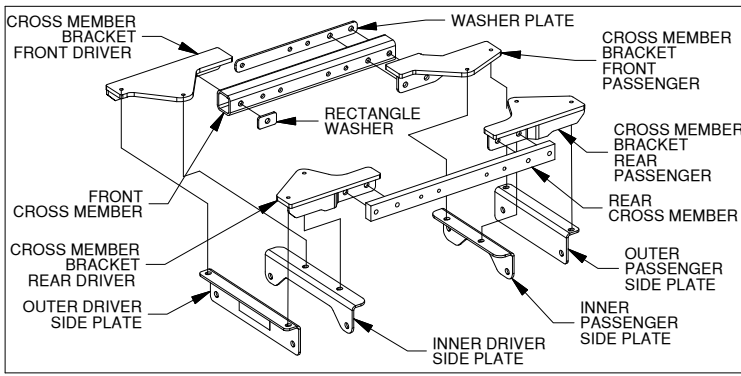
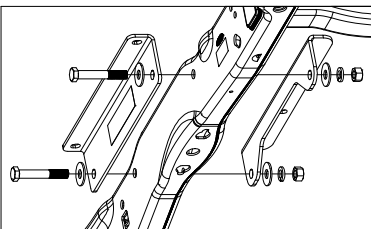
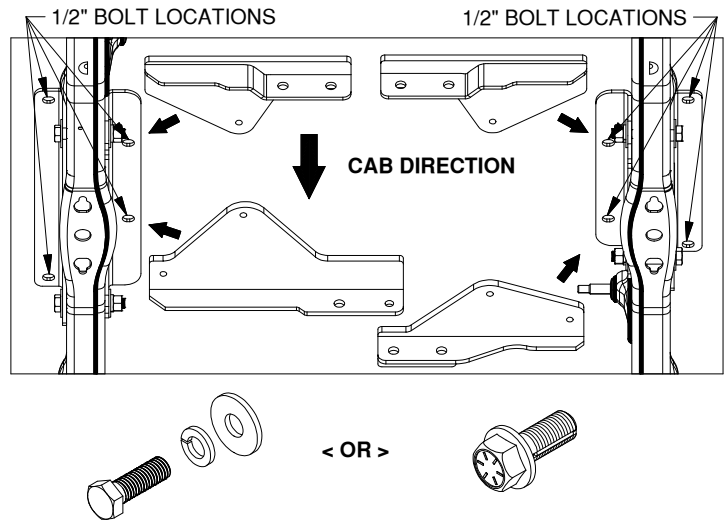
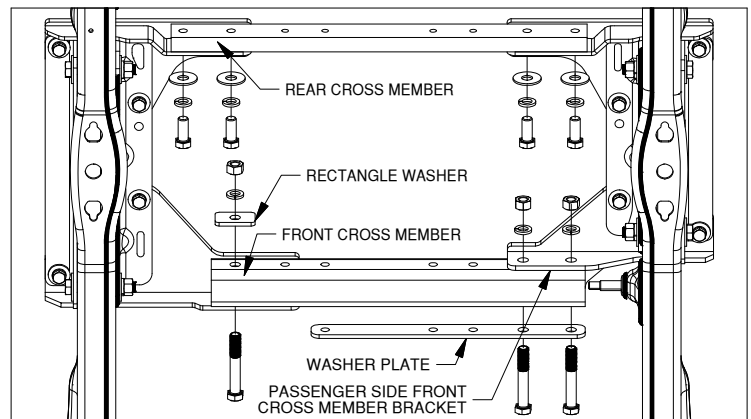

Figure B1: Side plates and Mounting Kit Exploded View
Figure B2: Driver Side Side plates
Figure B4: Bottom of truck frame looking up from the back of truck towards the cab
Figure B5: Bottom of truck frame looking up from the back of truck towards the cab
- 2. Install Side Plates.** Locate the outer and if needed the inner side plates, see figure B1. Install the side plates as shown in Figures B2 & B3, so that there is a side plate on the inside and outside of each frame member. Attach the side plates to the frame using 5/8" x 4" bolts, two flat washers, lock washer, and nut, as shown in Figure B2. Fasten hardware until the side plates are flush against frame.
- 3. Install Cross Member Brackets.** Locate the four cross member brackets as shown in Figure B1, and the eight, 1/2" bolts with an added thread locker. Attach these brackets to the inner and outer side plates using these bolts. If the bolts with thread locker are cap screws without a flanged head, also add a flat and lock washer, see Figures B4.
- 4. Install Front Cross Member.** Locate the front cross member shown in Figure B1. Inspect the front cross member tube, find the inside wall that contains the welded seam. Using the washer plate and two 5/8" X 4" bolts, attach the front cross member to the passenger side front cross member bracket so that the welded seam is positioned up against the bracket, see Figure B5. Next, attach the cross member to the driver side cross member bracket with 5/8" x 4" bolt, rectangle washer, lock washer and nut, as shown in Figure B5.
- 5. Install Rear Cross Member.** Locate the rear cross member shown in Figure B1. Attach the rear cross member to the cross member brackets as shown in Figure B5 with 5/8" x 1-1/2" bolts, flat washers, and nuts.